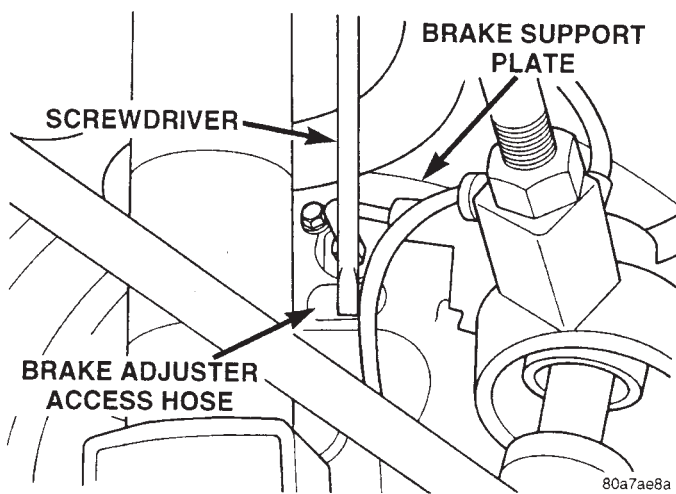

Fig. 170 Rear Brake Shoe Adjustment
(4) Insert a thin screwdriver through the adjuster access hole in the brake support plate (Fig. 170). Engage the tip of the screwdriver with the star wheel on the automatic adjuster. Move the handle of the screwdriver downward (toward the ground). Repeat the above procedure until drag is felt when rear wheel is rotated.